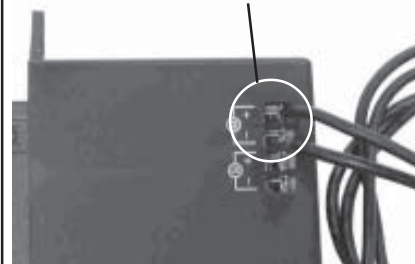

Figure 2
Step 2. Attach the open wire ends to terminal block **marked "M"** on the receiver by connecting the **marked wire to the positive (+) terminal** and the unmarked wire to the negative (-) terminal. Tighten down the retaining screws (See Figure 2).
- Connect the other end of the wiring to receiver terminals as shown in Figure 2. Insert 4 AA batteries in the battery holder.